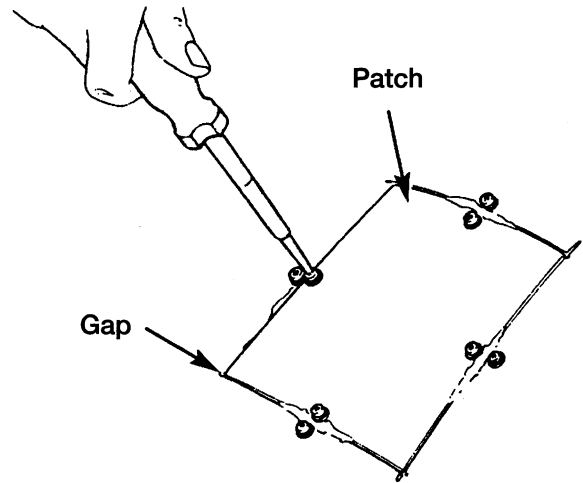

Fig. 6 Install Screws
15. Install screws to hold the patch to support squares (Fig. 6). Tighten screws until patch surface is flush with panel surface.